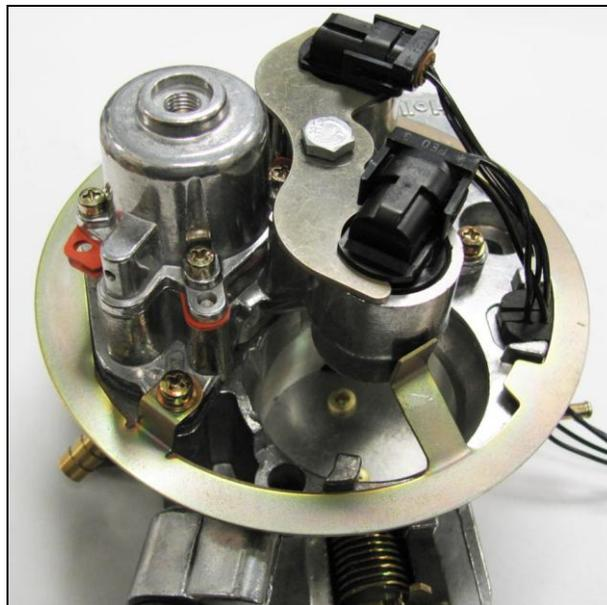

Figure 4
- Install the air distribution ring as pictured in Figure 4. Remove the injector pod mounting screw that corresponds to the retaining tab of the distribution ring. Install one of the supplied air cleaner gaskets under the distribution ring and the second on top of the ring. Reinstall the screw, torquing it to 18 in./lbs.